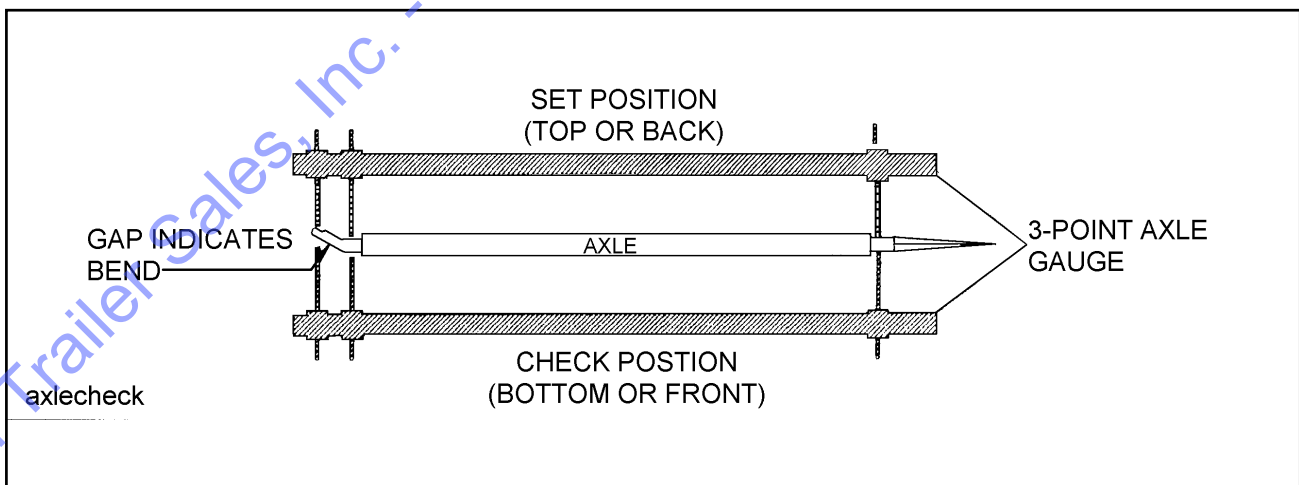

Figure 4-7 Checking Axle for Bend
- b. Place a 3-point axle gauge against the front side of the axle, and adjust each axle gauge point to the axle. (Double point end against the inner and outer wheel bearing surfaces of the spindle being checked and the other point on the inner bearing surface on the other spindle.)(See Figure 4-7).
- c. Move the axle gauge and place against the back side of the axle. If either of the points of double point end fails to touch the axle surface, a bent spindle is evident. A point gap of .015" or more is considered excessive tire "toe" and the axle must be replaced (See Figure 4-7).